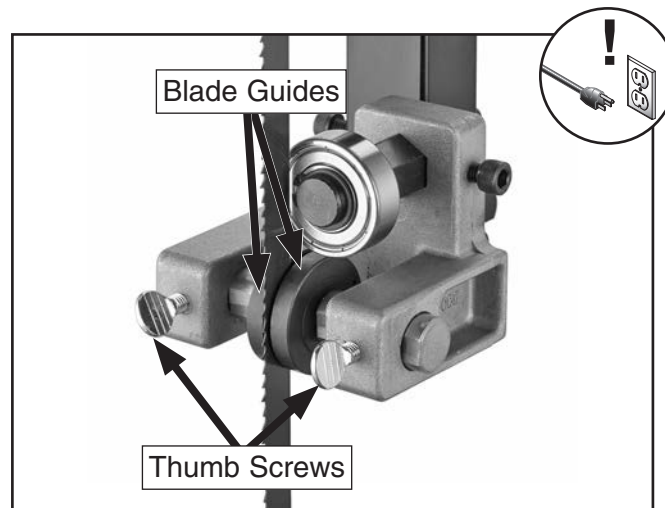

Figure 48. Upper blade guide components (guide post cover removed for clarity).
2. Loosen the thumb screws shown in **Figure 48**.